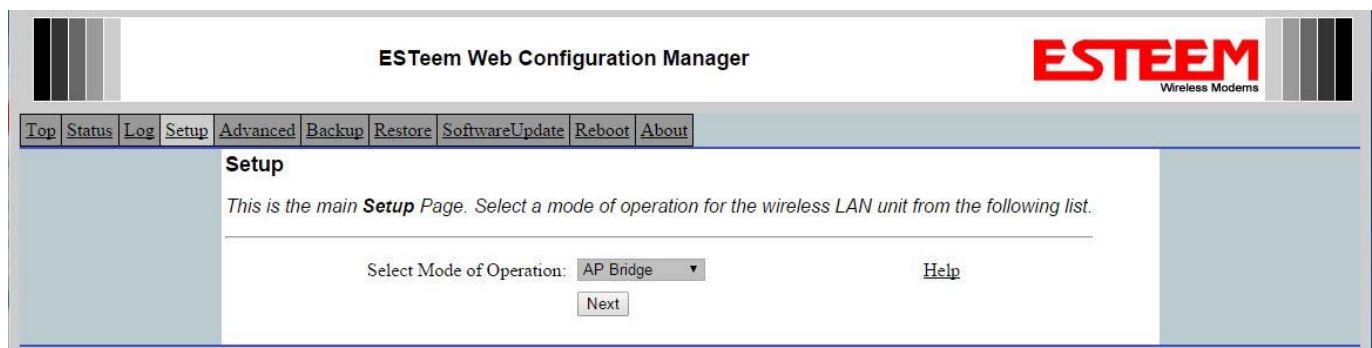

Figure 5: Select AP Bridge
1. Using the Discovery Tool, open the Web Configuration page in a web browser to begin setup (See Chapter 2 – Starting Out for full details on using Discovery Tool). Another method of accessing the modem is to type the IP Address of the modem being configured into the web browser address window. Once logged into the modem select the “Setup” tab to begin configuring (Figure 5).